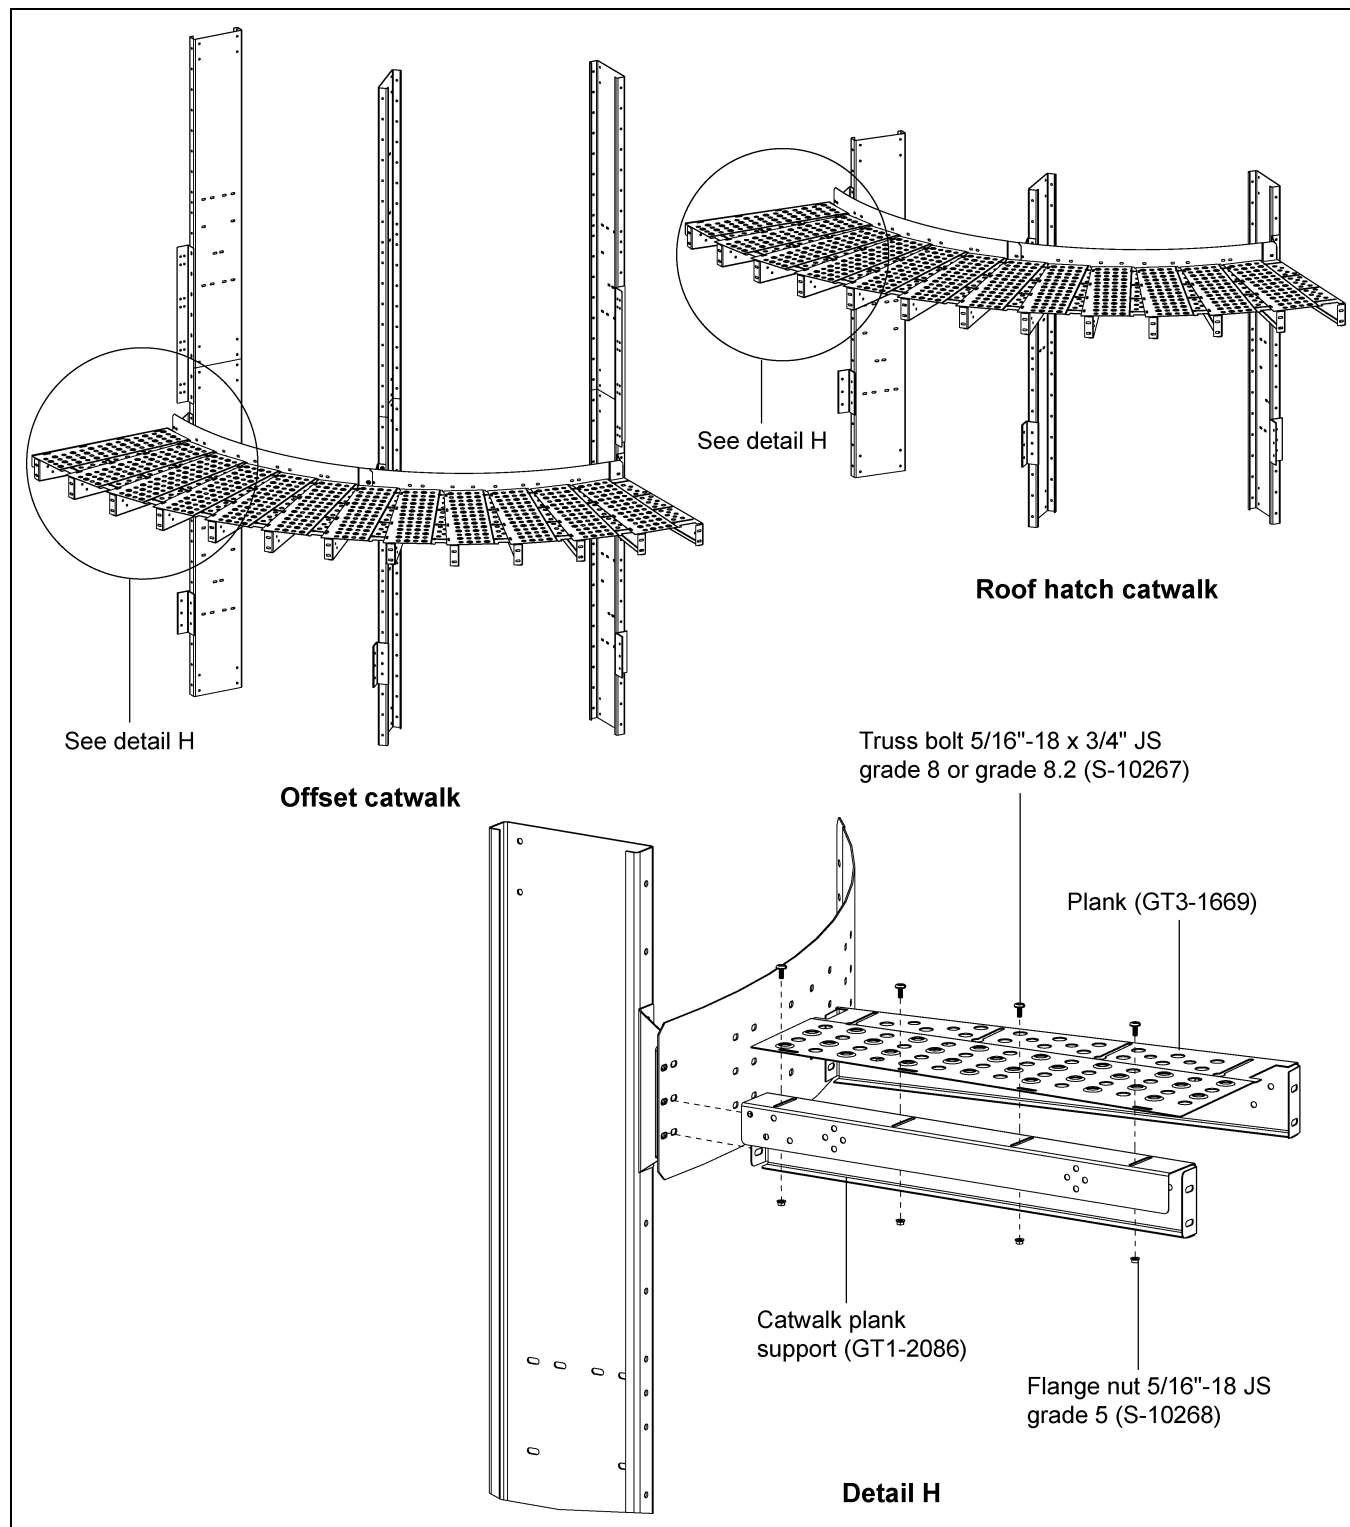

Figure 6R Plank Support (GT1-2086) Installation for Offset and Roof Hatch Catwalks
1. Once the planks are installed, install the plank support (GT1-2086) at the catwalk closing end using 5/16"-18 x 3/4" JS grade 8 or grade 8.2 bolts (S-10267) and 5/16"-18 JS grade 5 nuts (S-10268) and to the toe board (GT1-2035) using 3/8"-16 x 1" JS grade 8 or grade 8.2 bolts (S-7485) and 3/8"-16 ZN grade 5 nuts (S-968). (See Figure 6R.)